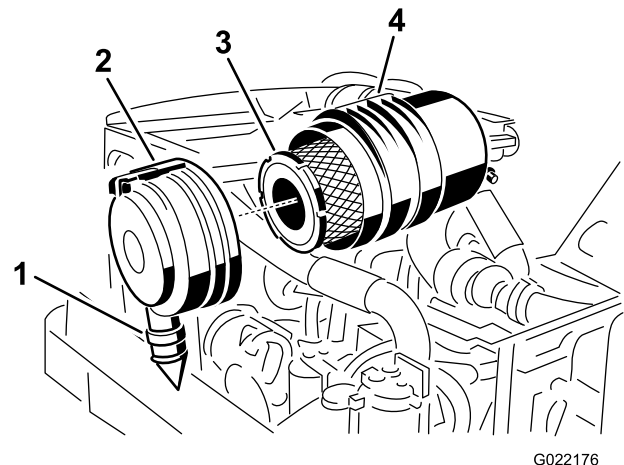

Figure 81
4. Remove the primary filter (Figure 81).